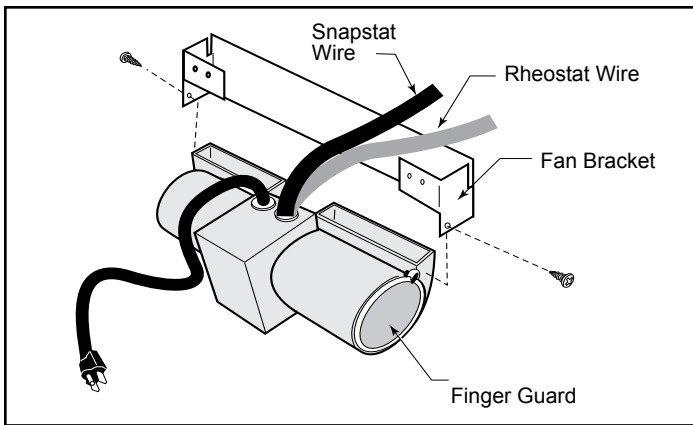

Figure 31 - Attach fan assembly to fan bracket.
5. Attach the fan assembly to the bracket supplied with stove in parts bag assembly. Use #10 sheet metal screws provided with fan kit. Do not remove finger guards screws. (Figure 31)